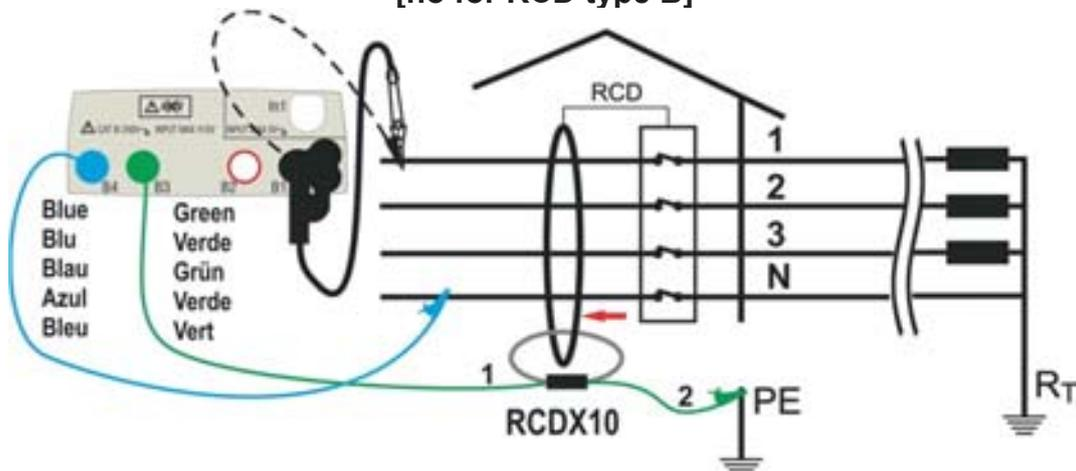

Fig. 17: Connection to earth leakage relay RCDs with optional accessory RCDX10
8. Connect the instrument and the optional accessory **RCDX10** to the installation (see Fig. 17). Pay attention to the connection of cables “1” and “2” of the RCDX10 accessory and to the direction of the current indicated by the arrow printed on the accessory. It is also possible to use the remote lead by inserting its multipolar connector into input lead B1